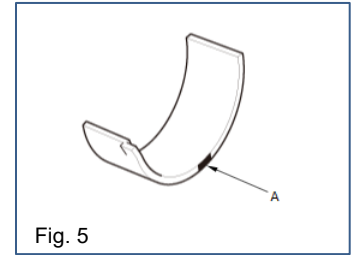

Fig. 5
The bearing has provided having a tolerance of every 0.03 mm in order of blue, black, brown, green, yellow, pink, and red of the identification color (A) of the connecting rod bearing (Figure 5)